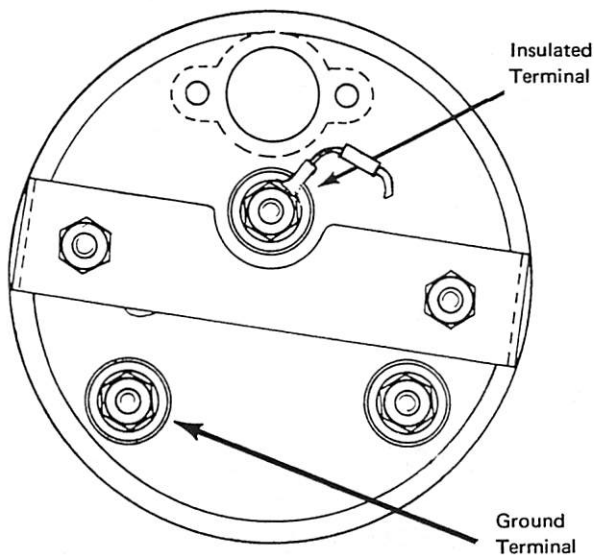

Figure 1. A-45294A1 Tachometer Terminals
1. Install one wire end to center terminal and the other wire end to lower left terminal on tachometer. (Figures 1 and 2)